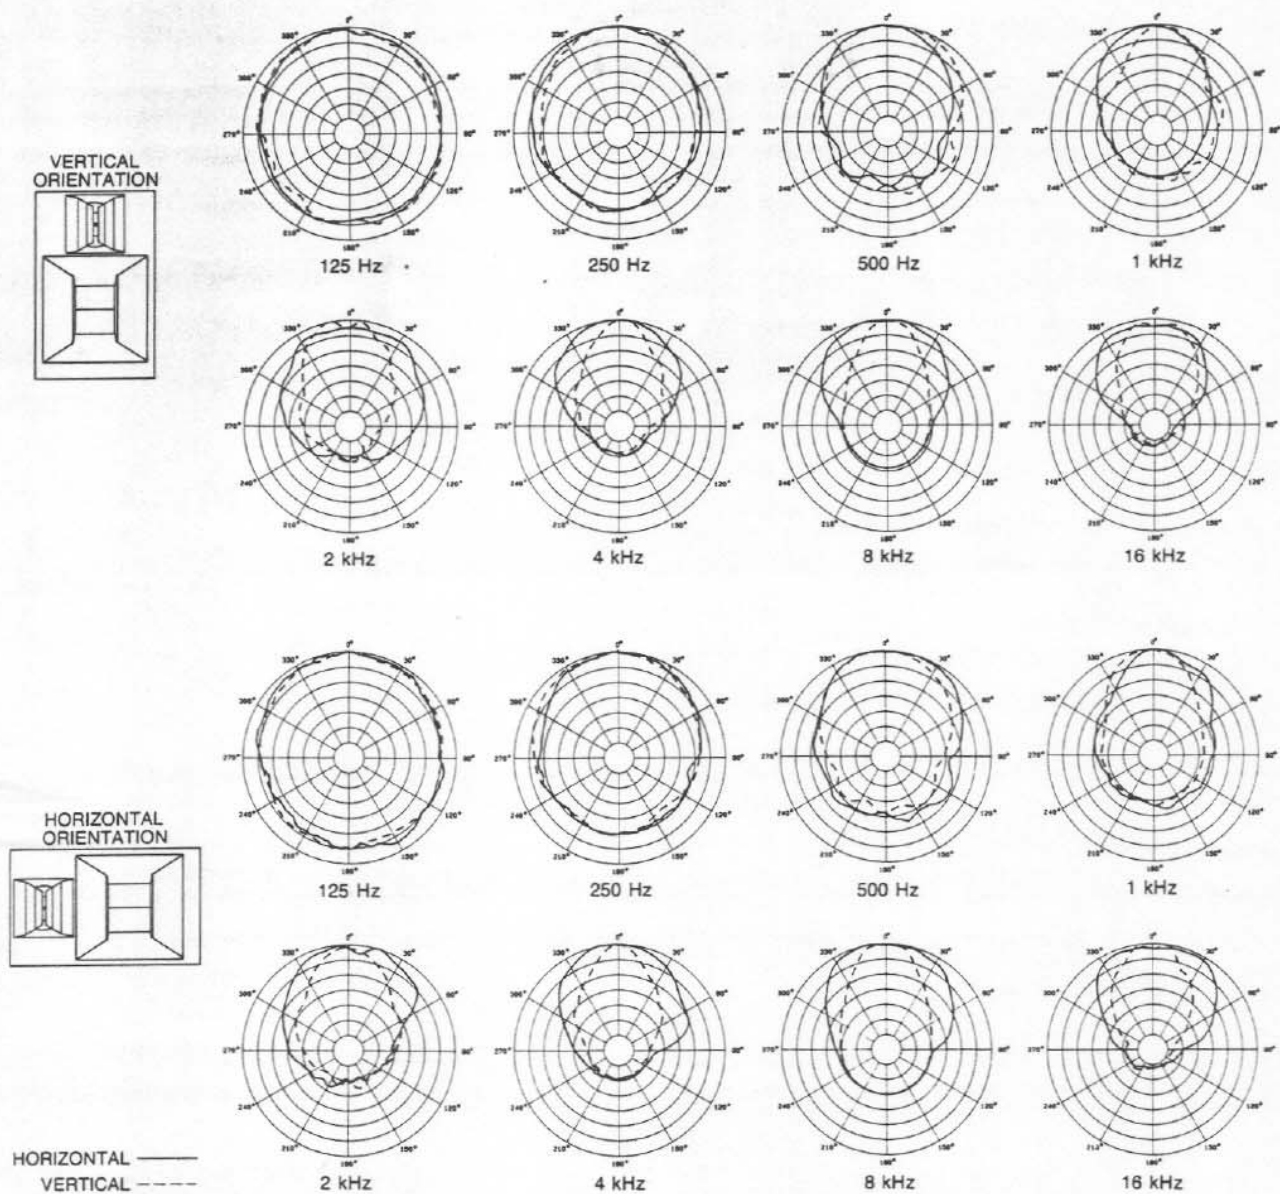
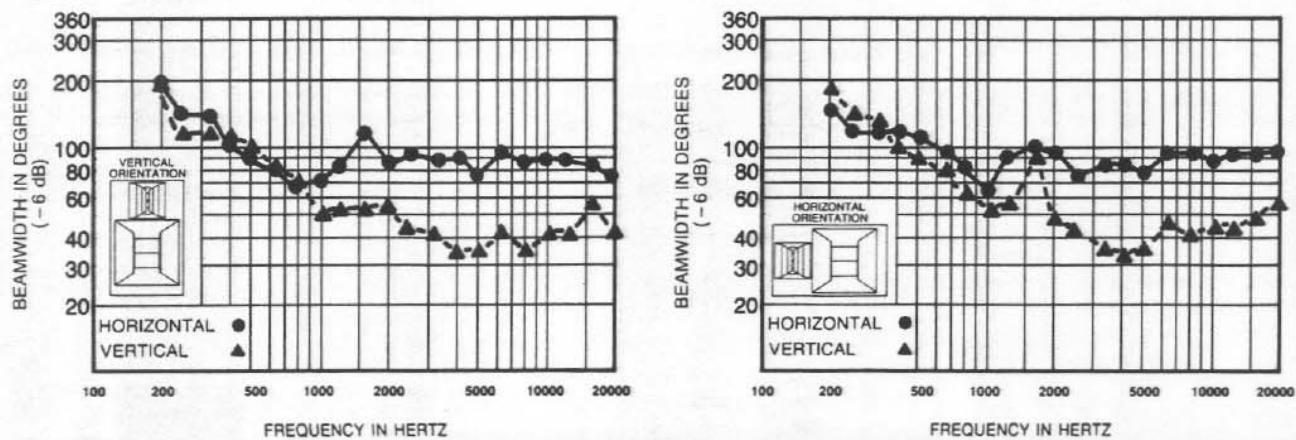
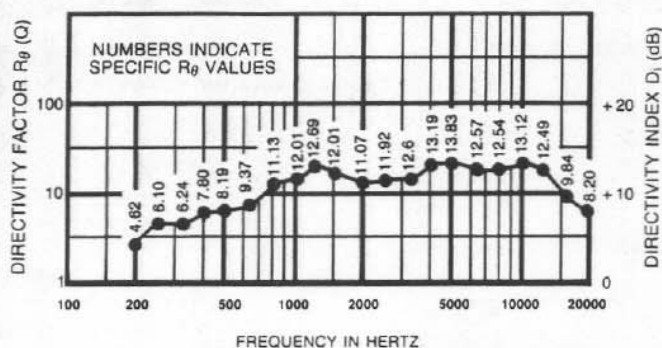

FIGURE 2 — MTH-2/94 Polar Response
FIGURE 3
FIGURE 4 — MTH-2/94 Directivity Factor and Directivity Index vs. Frequency Response (composite of both orientations)
600-20,000 Hz Horizontal (see Figure 3):
900-20,000 Hz Vertical (see Figure 3):
Median (see Figure 4):
(see Figure 4):
Directional information is provided for both horn orientations. Figure 2 illustrates the directional characteristics of the MTH-2/94. The measurements were taken in EV's large anechoic chamber at a distance of 20 feet using pink noise at selected one-third-octave bands. Crossover equalization and time delay were set, as recommended, in the Signal Processing section. Beamwidths are illustrated in Figure 3 and directivity factors R_θ (Q) and directivity indexes D_1 in Figure 4. These figures show how smooth and controlled the MTH-2/94 is over its entire operating range. AcoustiCADD™ data is available for the MTH-2/94.